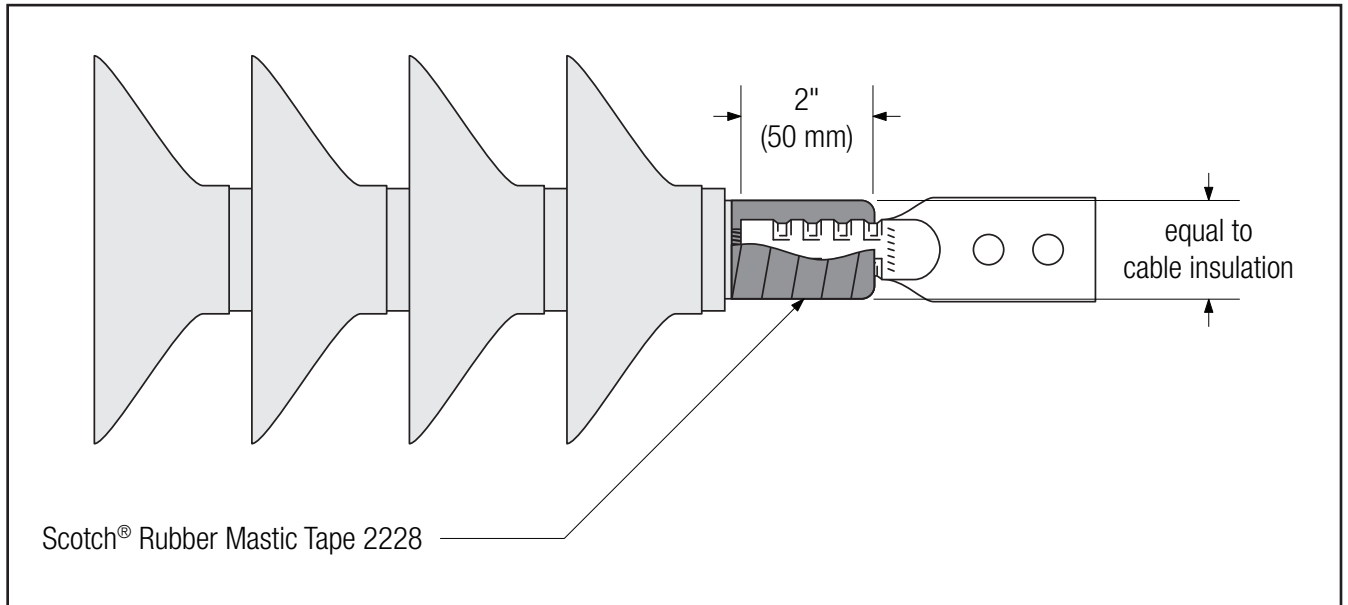

Figure 11
- 4.2 Wrap Scotch® Rubber Mastic Tape 2228 half-lapped over the lug barrel and insulation/lug gap, building to a diameter equal to the cable insulation. Cover 2" (50 mm) of the lug barrel. (*Figure 11*)